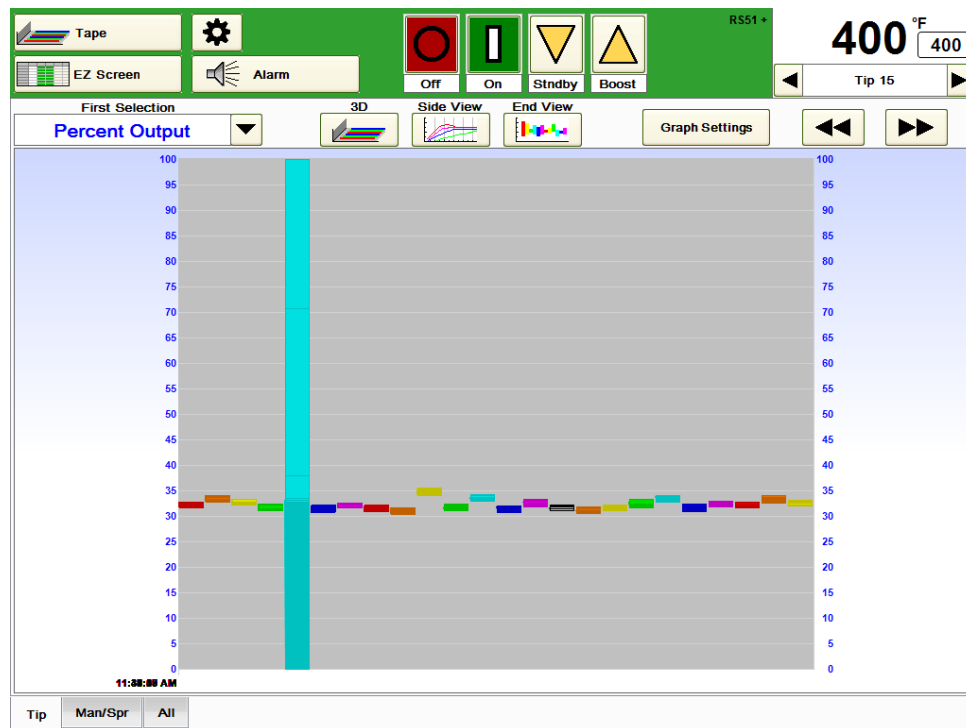

Figure 7k Tape Graph – End View
- End View – shown in Figure 7k. This view is useful in showing the relative stability of the zone. If one zone has more swing in a variable, it may be less stable than the other zones.